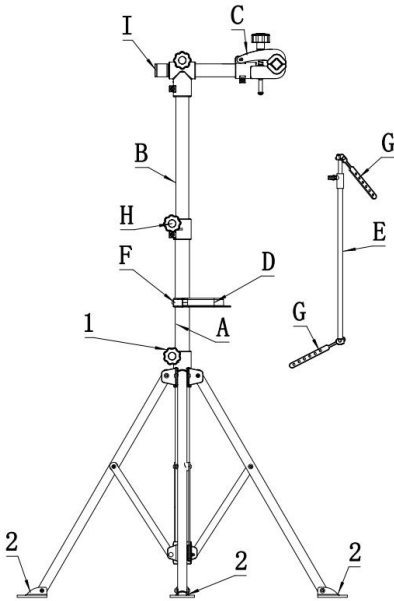

Fig. 1
- Please observe the maximum extension lengths of the telescopic pole (B) and the bicycle bracket (C). Do not exceed the marking on the telescopic pole (B)! Never extend the cross-bar on the bicycle bracket (C) farther than shown in fig.1.